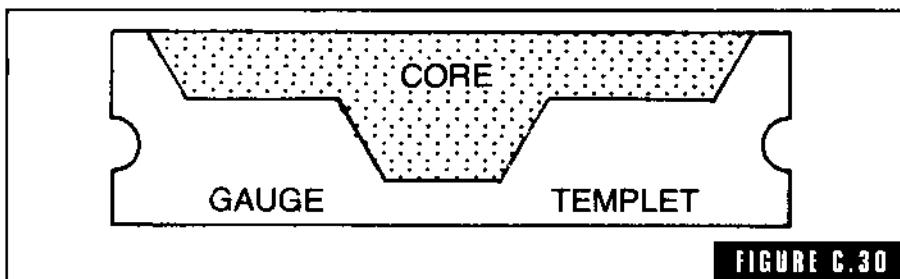

FIGURE C.30
**core sizing** Checking a core with a template or other gauge to determine its go/no-go tolerance limits (Fig. C-30).